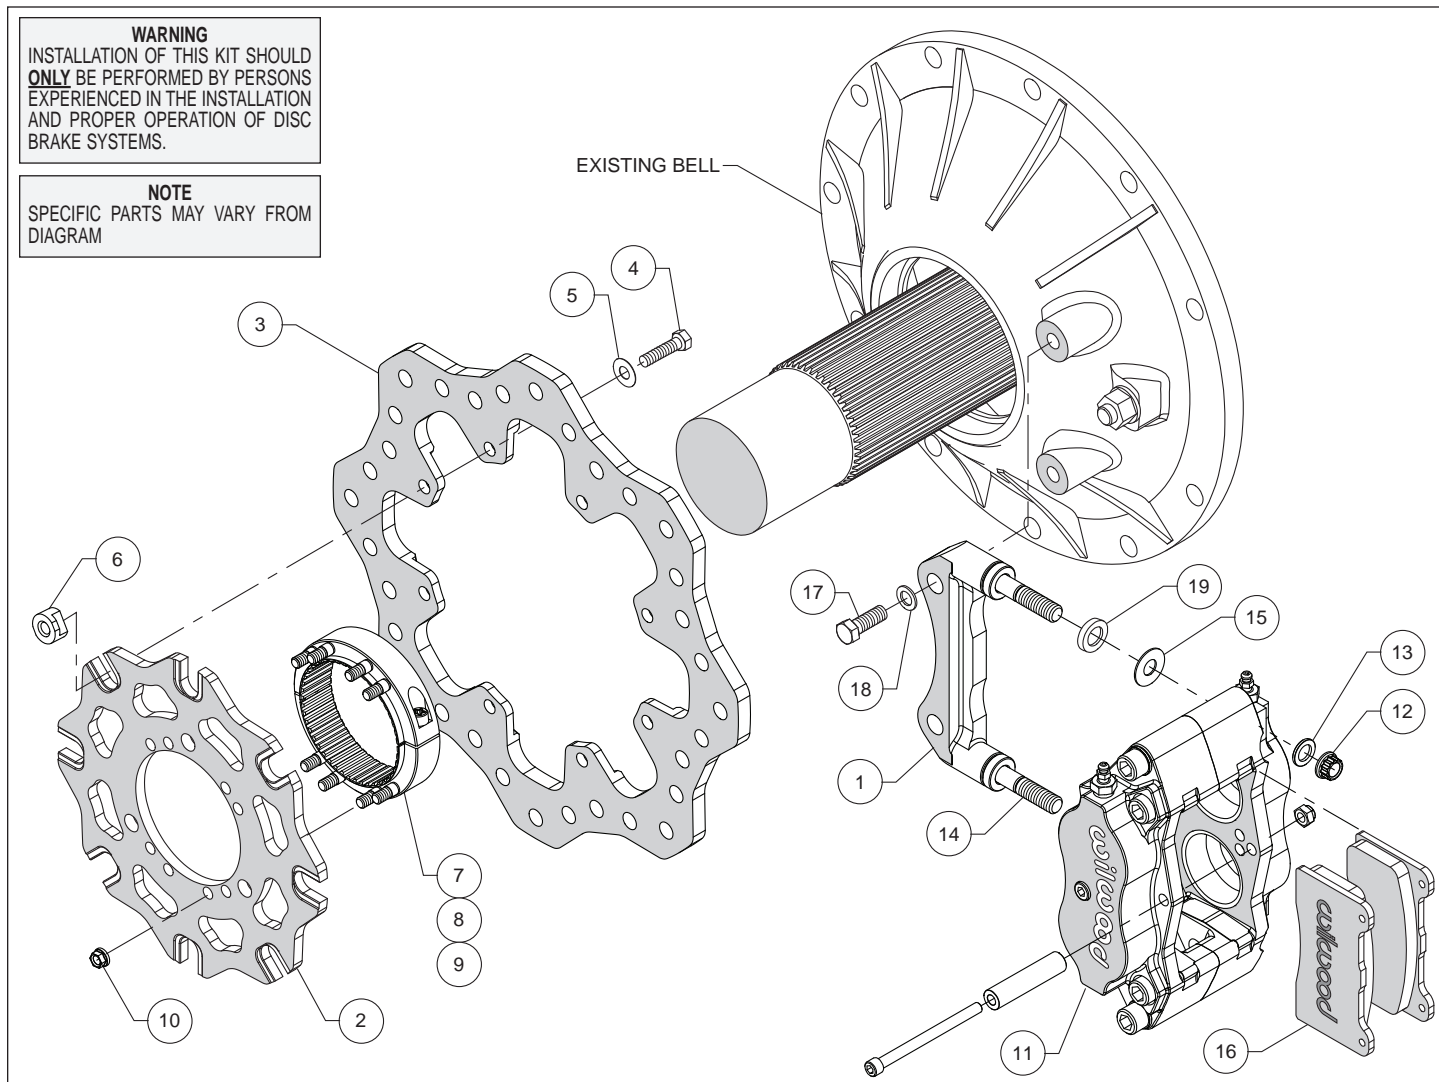

Figure 1. Typical Installation Configuration
- Orient the caliper mount bracket (1) as shown in Figure 1 and install using bolts (17) and washers (18). Temporarily tighten the mounting bolts. **NOTE:** The bracket must fit squarely against the mount bosses on the bell. Inspect for interference from casting irregularities, machining ridges, burrs, etc. Remove the bracket mounting bolts one at a time, apply red *Loctite*® 271 to the threads, and torque to 60 ft-lb.
- Orient the rotor adapter (2) and the rotor (3), as shown in Figure 1, and attach using bolts (4), washers (5) and t-nuts (6), Figure 1. Apply red *Loctite*® 271 to the bolt threads before installing. Finger tighten. After all t-nuts have been installed, torque bolts in an alternating sequence to 220 **in-lbs**. Please refer to Wilwood's data sheet DS-669 (available at www.wilwood.com/Pdf/DataSheets/ds669.pdf) for complete t-nut bolt kit installation instructions. **NOTE:** Rotor adapter may be fix mounted to rotor (instead of floating mount) using customer supplied hardware.
- Orient the axle clamp assembly (7, 8 and 9, pre-assembled) as shown in Figure 1 and install onto the rotor adapter (2) using nuts (10). Tighten nuts part way while still allowing clamp-to-rotor movement. The nuts will be torqued later, after aligning the rotor. **NOTE:** *The axle clamp should be positioned inside of the rotor as shown in Figure 1, not offset, or outside of the rotor adapter.*
- Lubricate the caliper mounting studs (14) with lightweight oil. Initially place one .030" thick shim (15) and one spacer (19) on each stud as shown in Figure 1. Mount the caliper (11) onto the bracket (1) using lock nuts (12) and washers (13), Figure 1. Temporarily tighten the lock nuts and view the rotor through the top opening of the caliper. The rotor should be centered in the caliper. If not, slide the rotor/adapter assembly on the axle until the rotor is centered in the caliper. Tighten the clamp bolts (9) first, locking the clamp to the axle. Torque nuts (10) to 140 in-lbs.
- Remove the caliper center bridge pad retainer bolt, nut, and tube from the caliper. Insert the brake pads (16) into the caliper, with the friction material facing the rotor. Check that the top of the brake pad is flush with the outside diameter of the rotor. If not, adjust by adding or subtracting shims (15) between the caliper and the bracket. After the caliper pad height is set, torque the caliper lock nuts (12) to 30 ft-lb. Secure the brake pads in place with the center bridge pad retainer tube, bolt, and locknut. The locknut should be snug without play in the bolt or tube. Be cautious not to over tighten.